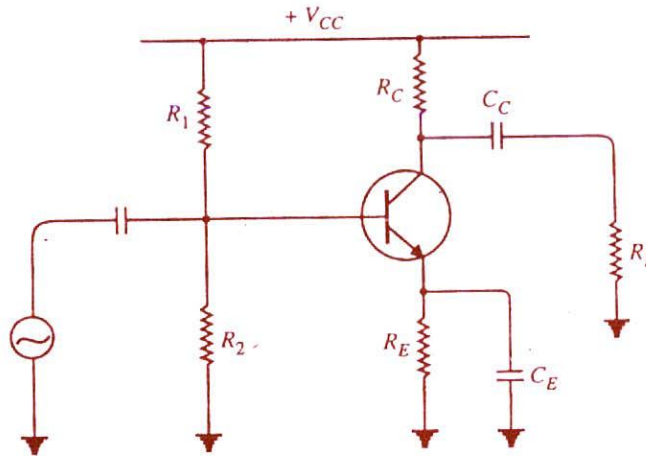

Fig. 12.33
3. Fig. 12.33 shows the transistor amplifier. If $R_C = 4 \text{ k}\Omega$, $R_E = 5 \text{ k}\Omega$ and $V_{CC} = 30 \text{ V}$, draw the d.c. load line.
4. Find the operating point for Fig. 12.33, $V_{CC} = 30 \text{ V}$, $R_1 = 20 \text{ k}\Omega$, $R_2 = 20 \text{ k}\Omega$, $R_C = 4 \text{ k}\Omega$, $R_E = 5 \text{ k}\Omega$. [13.2V, 1.85mA]
5. For the circuit shown in Fig. 12.33, find the voltage gain if $\beta = 100$, $R_C = 3 \text{ k}\Omega$, $R_L = 6 \text{ k}\Omega$ and $R_{in} = 2 \text{ k}\Omega$. [100]
6. In the circuit shown in Fig. 12.33, $V_{CC} = 30 \text{ V}$, $R_1 = 2 \text{ k}\Omega$, $R_2 = 1 \text{ k}\Omega$, $R_C = 2 \text{ k}\Omega$, $R_L = 2 \text{ k}\Omega$, $R_E = 1 \text{ k}\Omega$. Draw the d.c. and a.c. load lines.